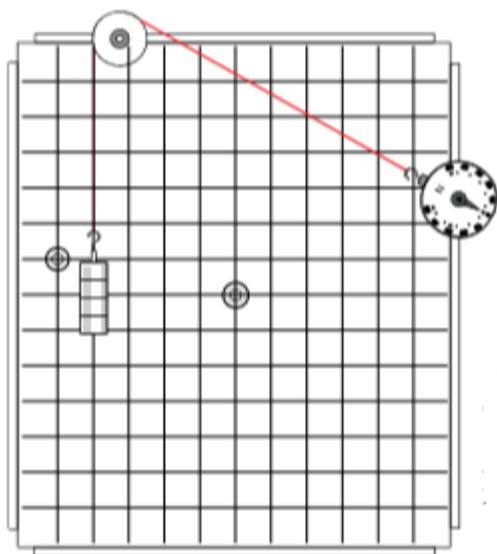

Figure 5: A fixed pulley
- 1) Set up the experimental board as shown in Figure 5, with a 20N weight.